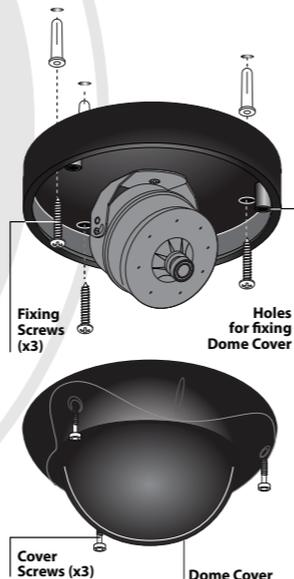

Figure 1
3. Secure the camera base in the desired position with the fixing screws (as shown in Figure 1).